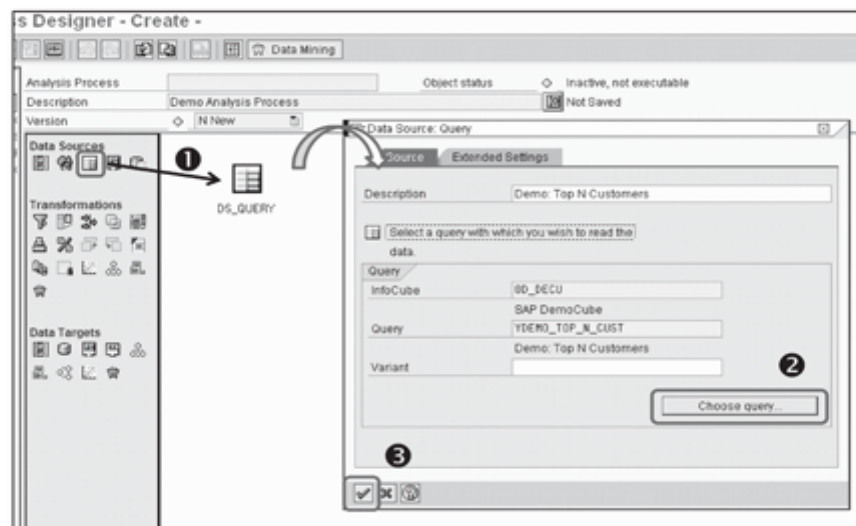

Figure 15.7 Add Data Source - Query
1. Drag the Query icon from the Data Sources area to the design area (❶ of Figure 15.7), and assign a query to this data source using the Choose Query button in the pop-up box (❷). Press Enter, or click on the icon shown in ❸ of Figure 15.7 to return to the design screen.